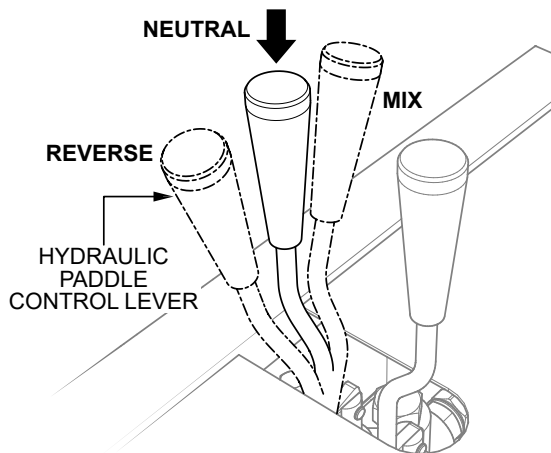

Figure 13. Hydraulic Paddle Control Lever (Neutral Position)
1. Make sure the hydraulic paddle control lever (Figure 13) is in the **neutral** position.